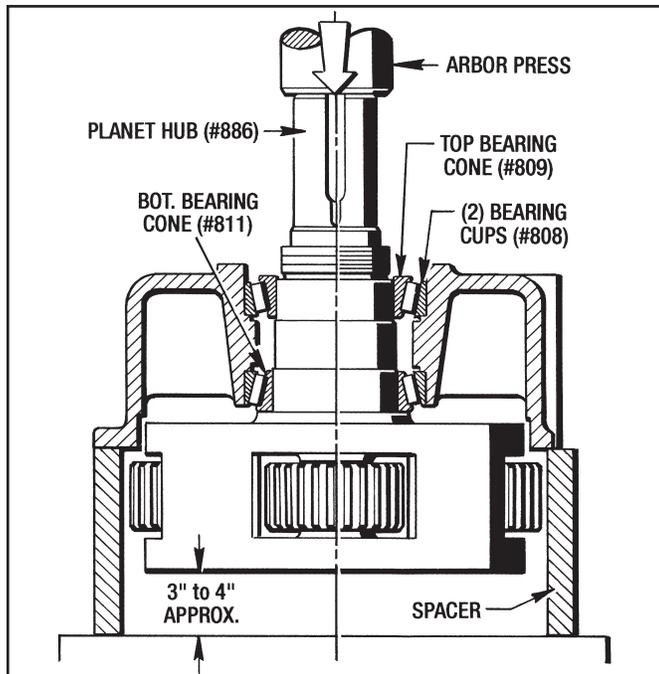

Figure 7.9 - Removing Planet Hub (#886)
2. Place the remaining assembly into an arbor press with the Planet Hub (#886) shaft in an upward position. Use appropriate spacers to raise the Planet Hub approx. 2" to 3" off the table. (See Figure 7.9)